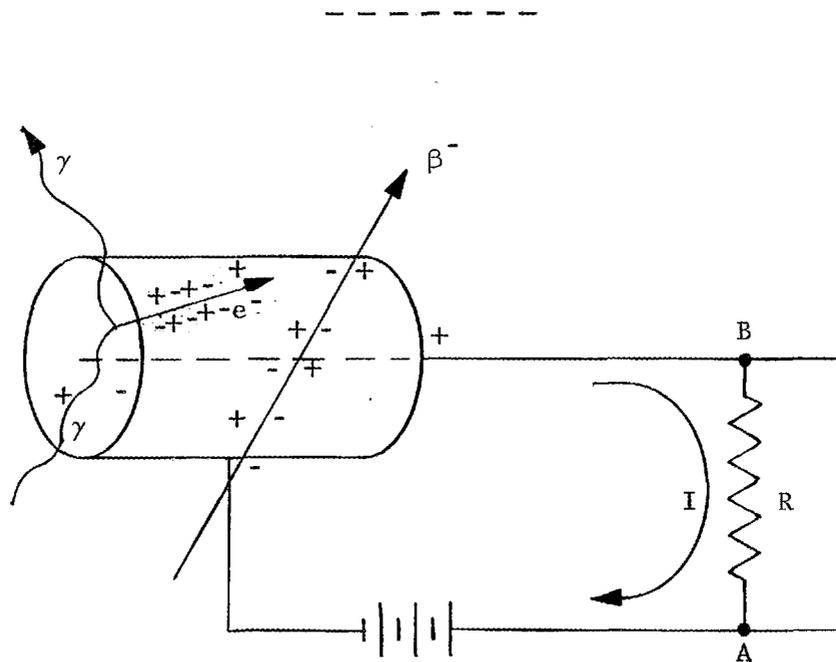

Fig. V-41. Ionization Chamber Conducting
2. When ionizing radiation passes through the chamber, it produces ion pairs in the gas along its path, as in Figure V-41. An ion pair, you may recall, is composed of the positively charged atom and the negatively charged electron that has been separated from the atom by the radiation. Usually only the charged atom is referred to as an ion.
5. In Figure V-41 the wire is positively charged and the can is negatively charged. Thus, the electrons will move toward the center wire and the positively charged ions will move toward the inner surface of the _____ charged can.
9. The path of the radiation through the gas of the ionization chamber is marked by _____ pairs, as shown in Figure V-41. Some other types of ionizing radiation and particles not illustrated are alpha particles, secondary radiation from neutron absorption, photo electrons, etc.
52. When the gas in the chamber (Figure V-41) is ionized, the battery causes current to flow through the chamber and the resistor, R, making point "B" negative with respect to the point "A". The potential difference is proportional to the current flow which is, in turn, proportional to the amount of _____ in the chamber.
53. When radiation causes the gas in the chamber to become conducting, a _____ is developed across the resistor, R (Figure V-41).
57. The term "signal voltage" is often used to designate the voltage developed across the resistor, R, (Figure V-41) by the "signal current" produced by _____ in the ion chamber.